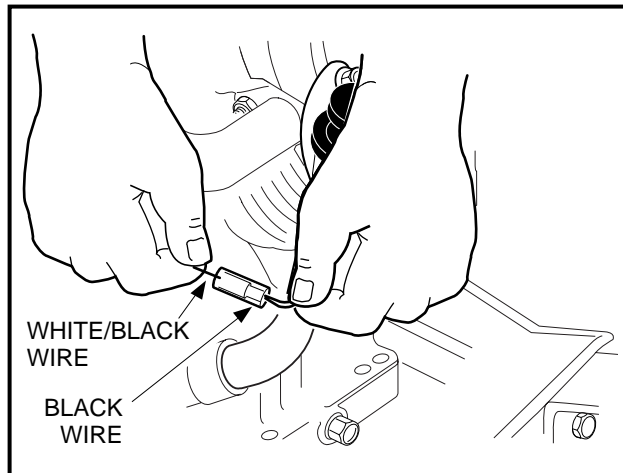

Figure 16-18 Ignition Kill Wire
- 3.13. Disconnect the engine kill switch wire (18 gauge white/black) from the bullet connector at the lower right front of the engine (**Figure 16-18, Page 16-10**).